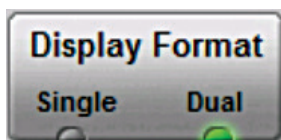

Figure 14. Dual display indicator lit
1. If desired, both measurements covered in this application note may be measured and displayed simultaneously. To measure and display both simultaneously, based on the calibration previously made in step 5, simply press the “Display Format”  sub menu key until “Dual” is lit with the green indicator (**Figure 14.**)